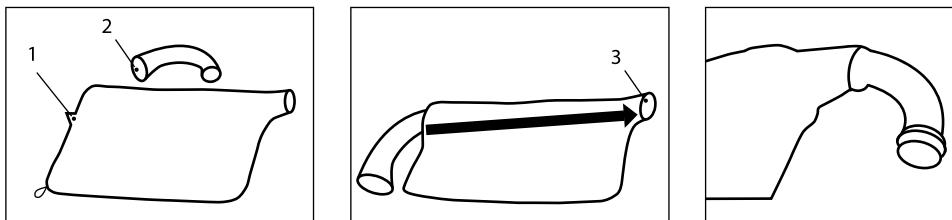

Fig. 2
Take the curved outlet tube (2) and insert inside the collector bag (1) in the direction of the arrow until you reach the elasticated neck. Make sure the tube is pulled through until it stops (Fig.2)